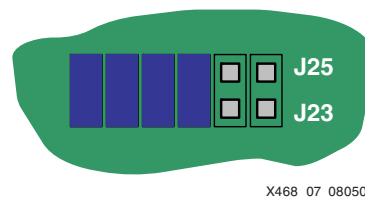

Figure 7: J23 and J25 Configured for Direct SPI Programming
5. Configure jumpers across J23 and J25 to enable direct SPI programming (Figure 7).